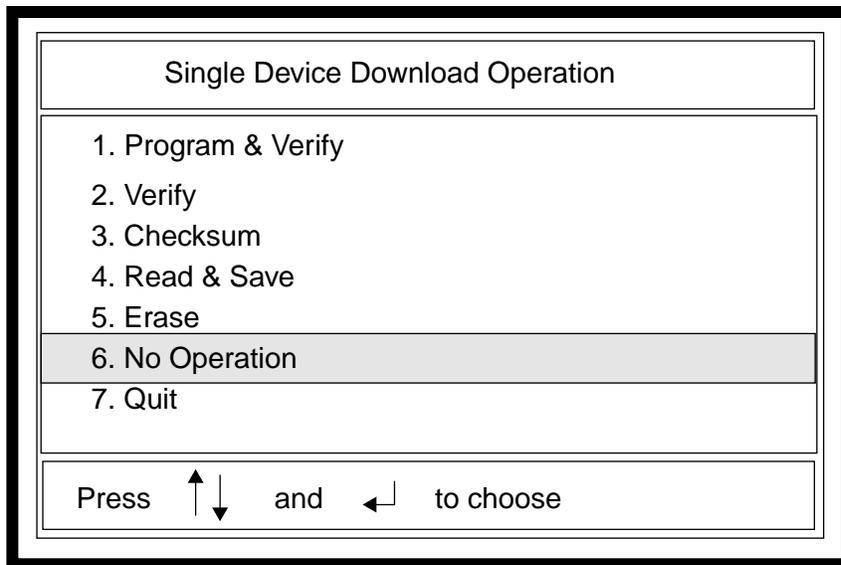

Figure 3-59. No Operation Screen
1. Type **6** or **N** from the Single Device Download Operation menu (Figure 3-59).